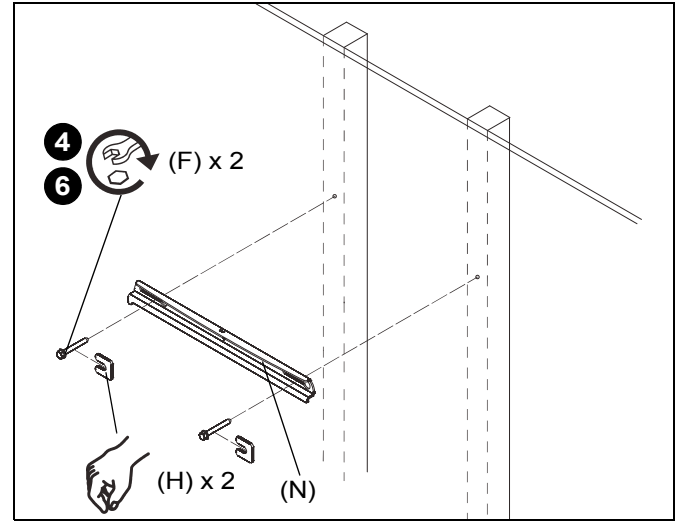

Figure 2
4. Loosely attach wall rail (N) to wall using two 5/16- 2 1/2" flange head lag screws (F). (See Figure 2)
5. Place two installation spacers (H) over two 5/16 x 2 1/2" flange head lag screws (F). (See Figure 2)
6. Tighten two screws (F) to secure upper wall rail (N) to wall. (See Figure 2)